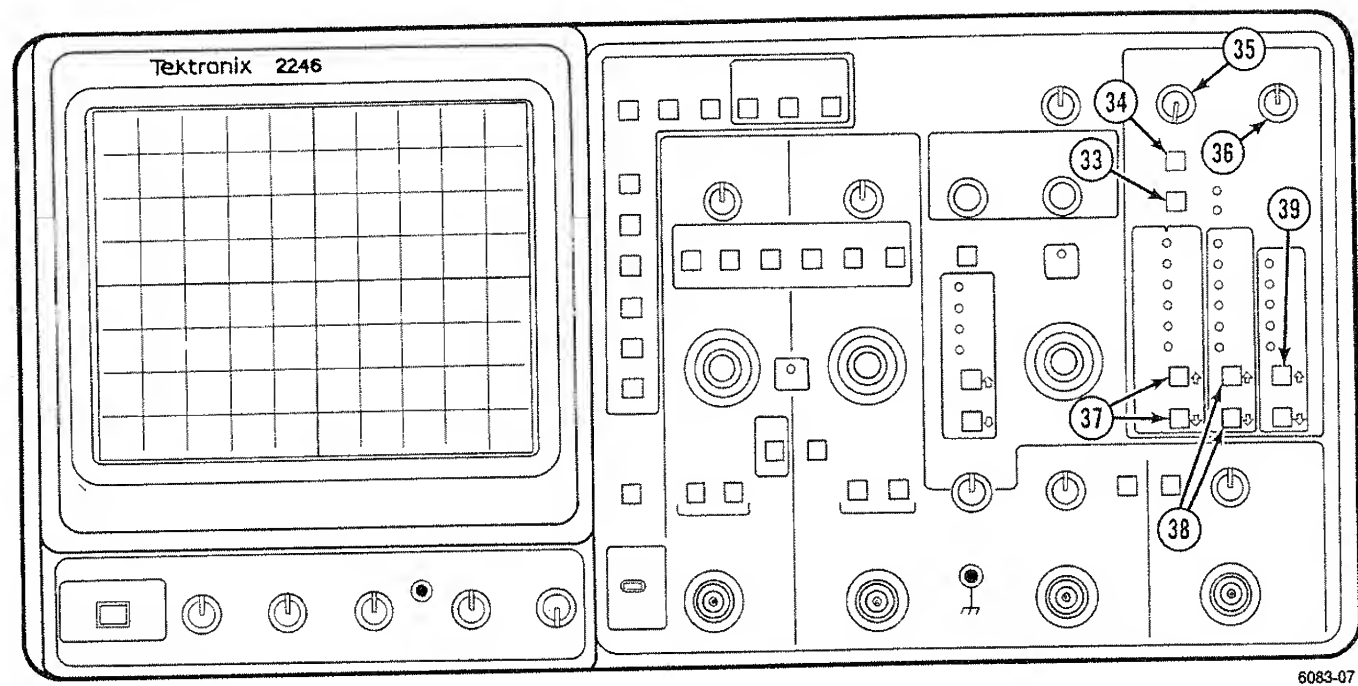

Figure 3-5. Trigger Controls and Indicators.
See Figure 3-5 for items 33 through 39.